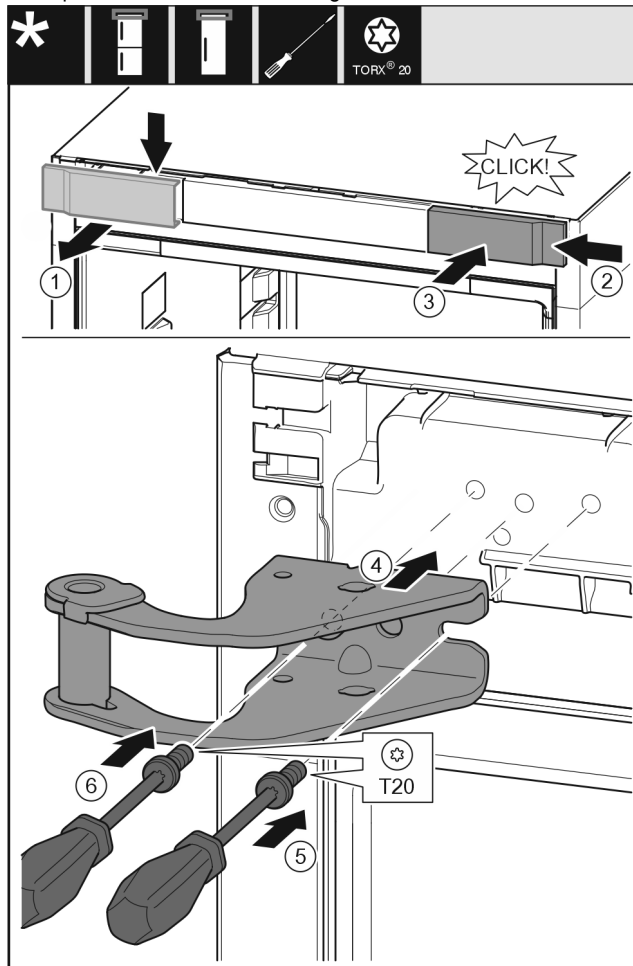

Fig. 12
- ▶ Remove the cover Fig. 12 (1) from above towards the front.
- ▶ Turn the cover Fig. 12 (2) by 180° and attach to the other side from the right.
- ▶ Engage the cover Fig. 12 (3).
- ▶ Place the top swap bearing block Fig. 12 (4).
- ▶ Use screwdriver Fig. 12 (5) to place the screw and tighten it.
- ▶ Use screwdriver Fig. 12 (6) to place the screw and tighten it.